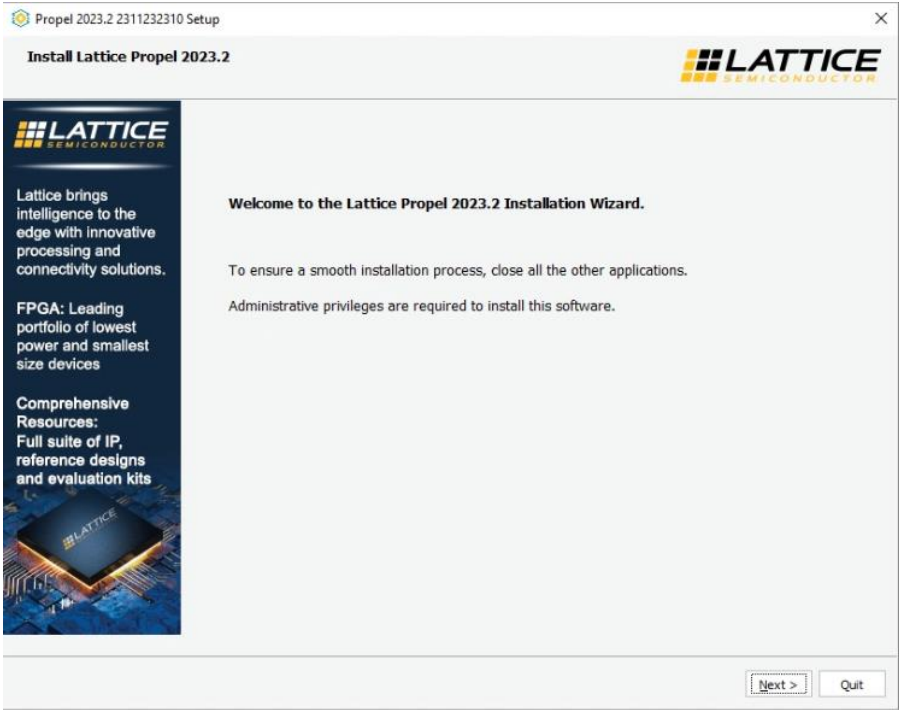
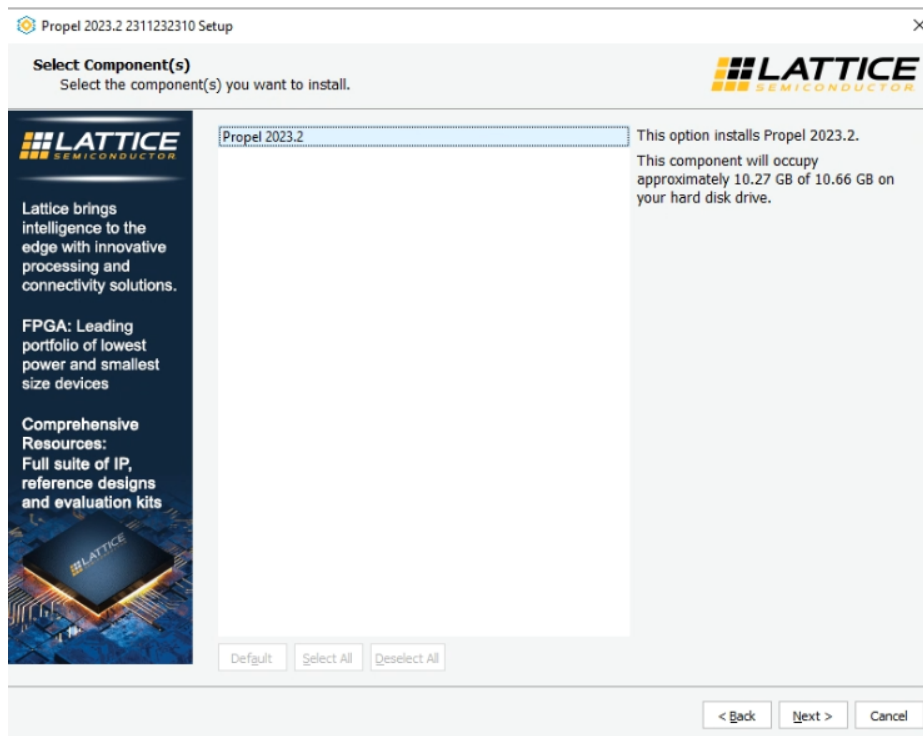

Figure C.3. Lattice Propel 2023. 2 Installation Wizard
Figure C.5. Install Components
2. Click **Next** as shown in Figure C.3 to Figure C.5.